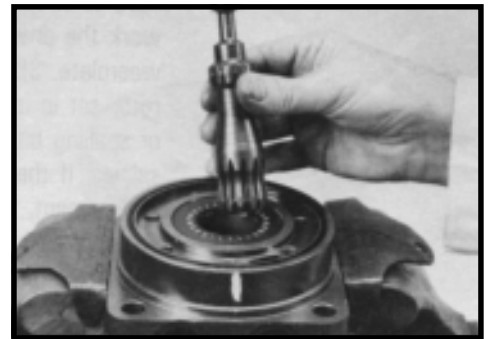

Figure 17
- Remove drive link (10) from coupling shaft (12) if it was not removed with rotor set and wear plate. Inspect drive link for cracks and worn or damaged splines. No perceptible lash (play) should be noted between mating spline parts. SEE FIGURE 17. Remove and discard seal ring (4) from housing (18).